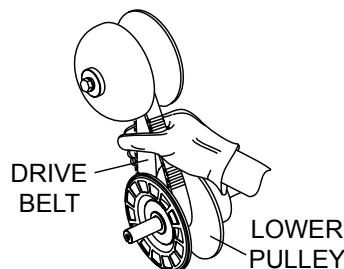

Figure 18. Expanding Lower Drive Pulley
2. Squeeze the drive belt as shown in Figure 18, and pull the belt upwards. This will spread open the faces of the lower drive pulley.